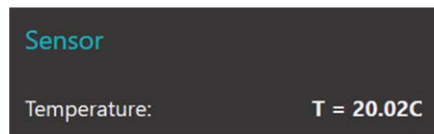

Figure 13.12 Displaying the temperature with node text
- Join all nodes and click **Deploy**. Start the Dashboard by entering the following into your web browser. You should see the ambient temperature displayed as shown in Figure 13.12 (notice that the Style is set to Dark in this display):